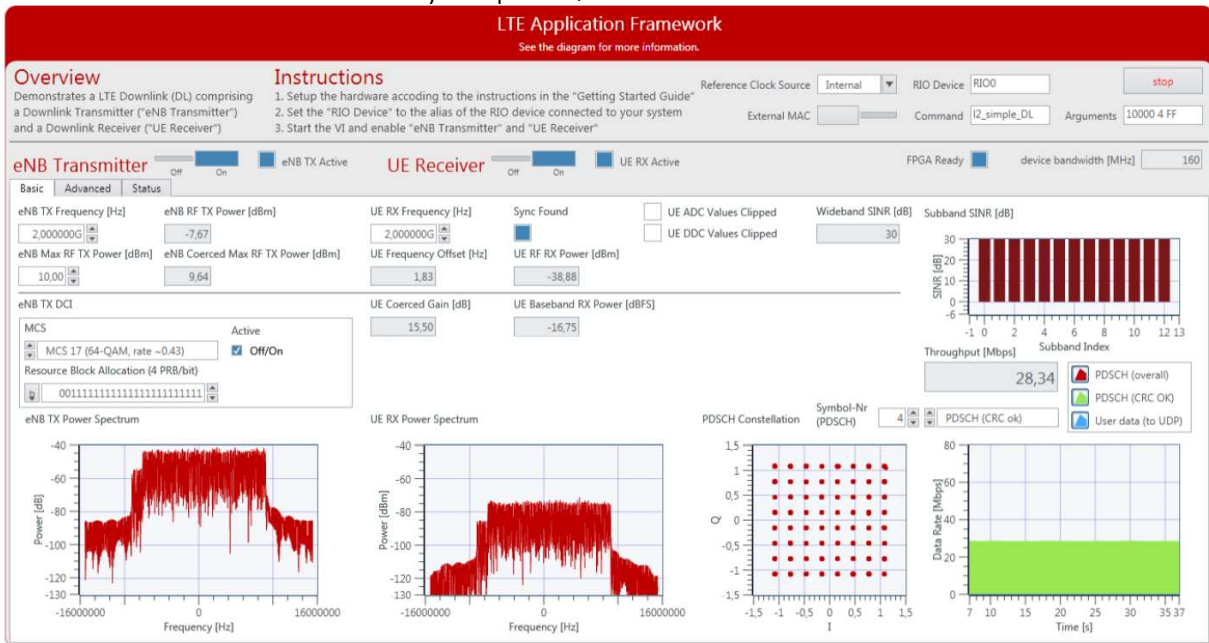

Figure 7 Front Panel of LTE Host DL.gvi / Basic Tab When Running Successfully
4. Within that project, open the LabVIEW top-level host VI in the downlink-only variant, **DL Host.gvi in DL Host.gcomp**. The panel of this VI is shown in Figure 7.